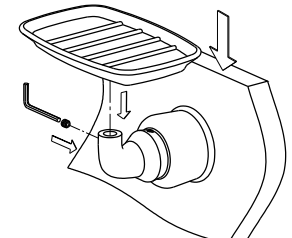

Fig. 7
- Step 7. Insert the soap dish into the hole in the base and tighten the slotted screw with the allen wrench (fig 7).